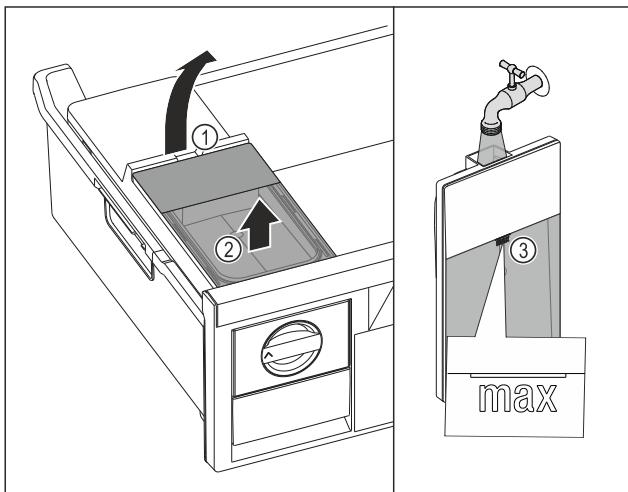

Fig. 144
- Lift the water tank at the recess Fig. 144 (1).
- Remove the water tank by lifting it upwards. Fig. 144 (2).
- Fill the water tank with drinking water up to the mark Fig. 144 (3).